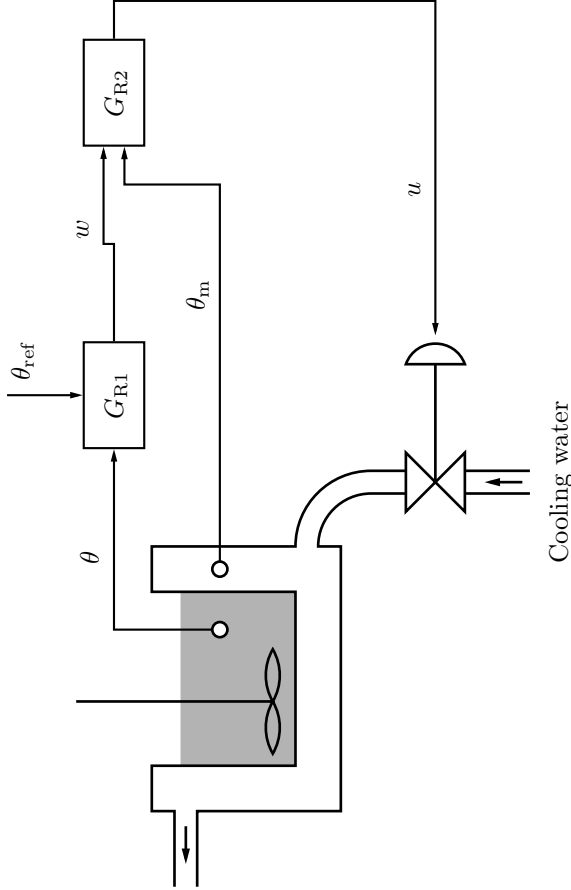
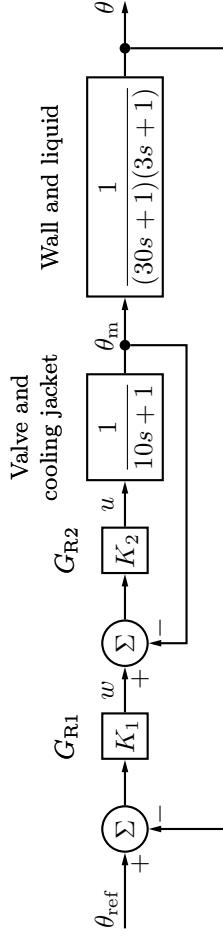

Figure 7.1a
Figure 7.1b
7.1 To control the temperature  $\theta$  in a chemical reactor, the control system in Figure 7.1a is used, where  $\theta_{\text{ref}}$  is the desired (reference) temperature. The temperatures  $\theta$  and  $\theta_m$  in the reactor and the cooler, respectively, are measurable and can be used to control the valve  $u$ . The structure of the control system is given by Figure 7.1b. It is here assumed that both  $G_{R1}$  and  $G_{R2}$  are P controllers.